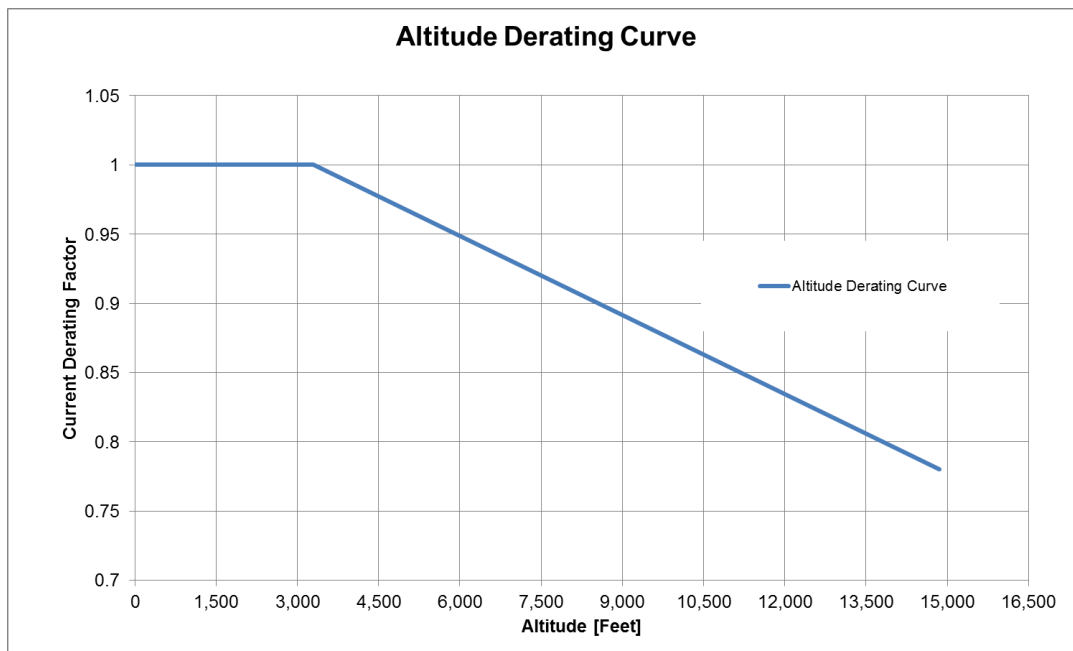

Figure 3-3: Altitude Derating Curve
- Altitude:** 3,300 feet above sea level without derating. See Figure 3-3: Altitude Derating Curve (p9) for derating curve.